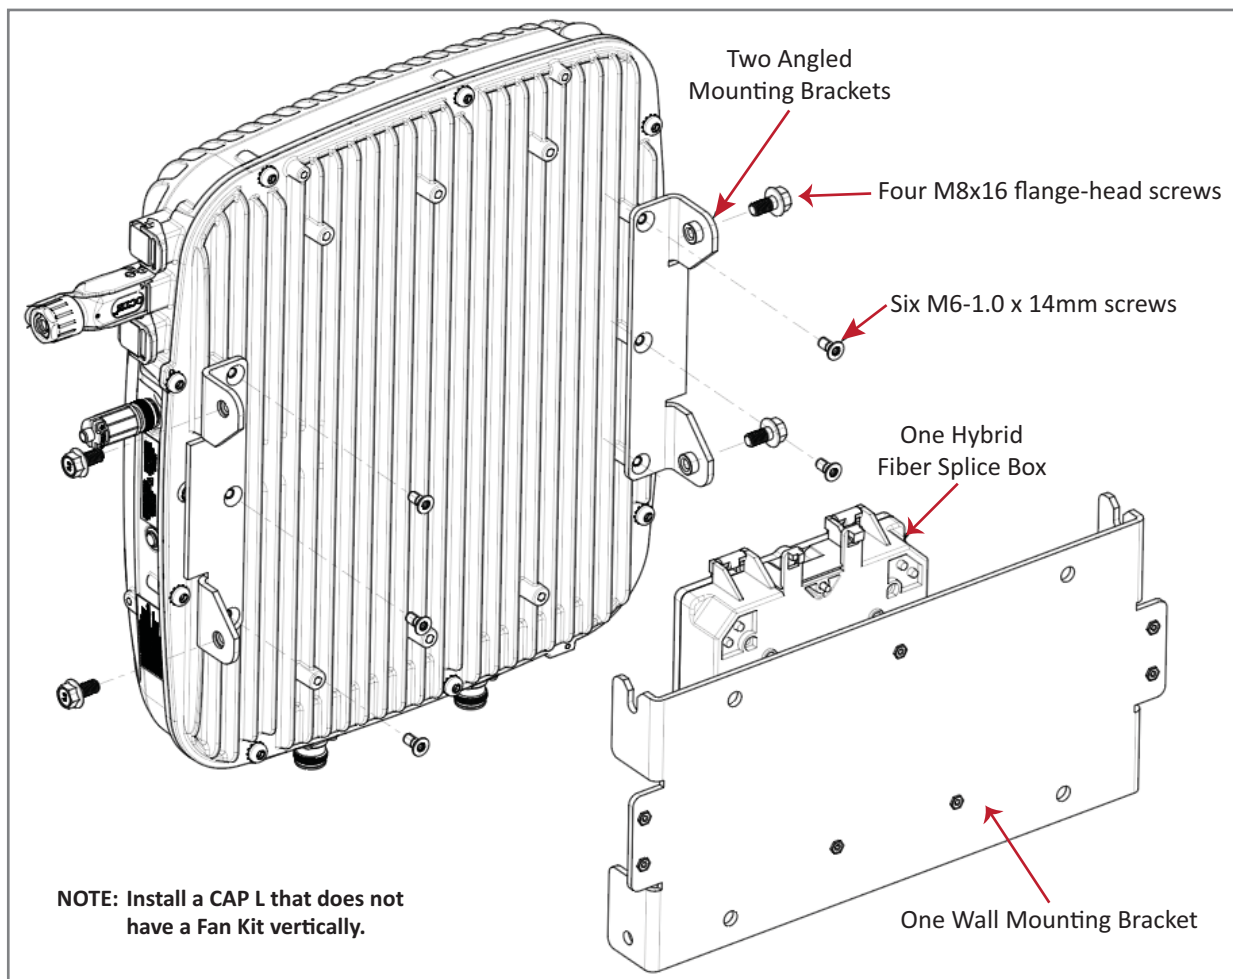

Figure 7-8. CAP L (No Fan Kit) with Power Supply / Hybrid Fiber Mounting Kit
- CAP L, no Fan Kit—Figure 7-8